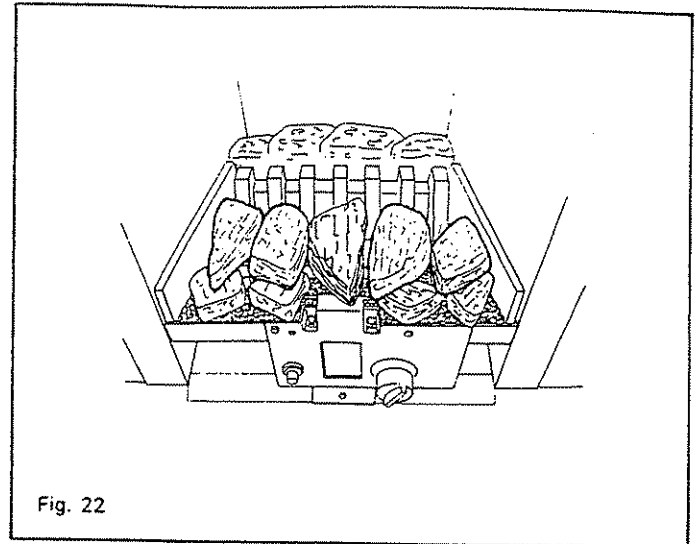

Fig. 22
7.7.5.3 Use four of the larger coals to form bridges between the coal support grid and the front row of coals - See fig. 22.